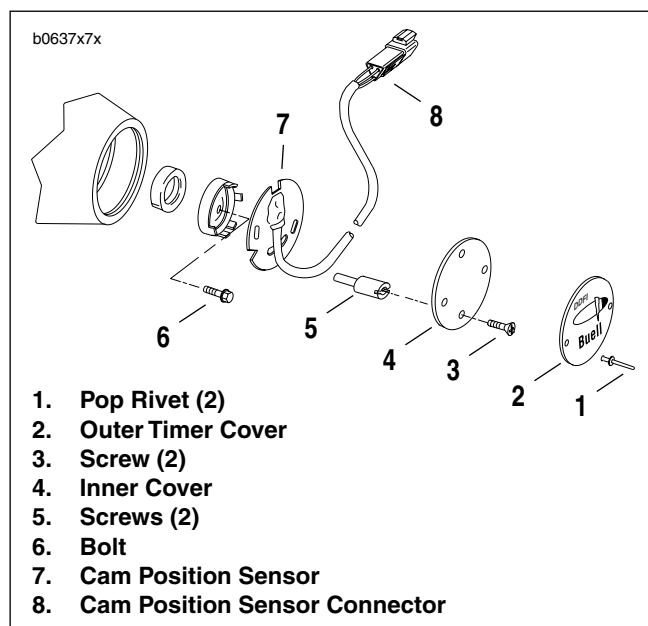

Figure 1-46. Timing Cover
1. See Figure 1-46. Locate outer timer cover (2) at bottom of gearcase cover on right side of vehicle.
- a. Drill off heads of outer timer cover rivets (1) using a 1/8 inch drill bit. Use a punch to tap rivet shafts inboard through holes in outer timer cover. Remove outer timer cover (2).
- b. Remove two Phillips screws (3) to free inner timer cover (4). If necessary, tap remaining rivet shafts through holes in inner timer cover.
- c. See Figure 1-46. Loosen two screws (5) on cam position sensor (7). Rotate sensor clockwise until the voltmeter registers the change from 0.0-1.0 VDC to 5.0 VDC (+/- 0.5 volts).
- d. Tighten both sensor screws (5) to 10-20 in-lbs (14-27 Nm).
7. Install inner cover (4), inner cover screws (3), outer cover (2) and **new** outer cover rivets (1).